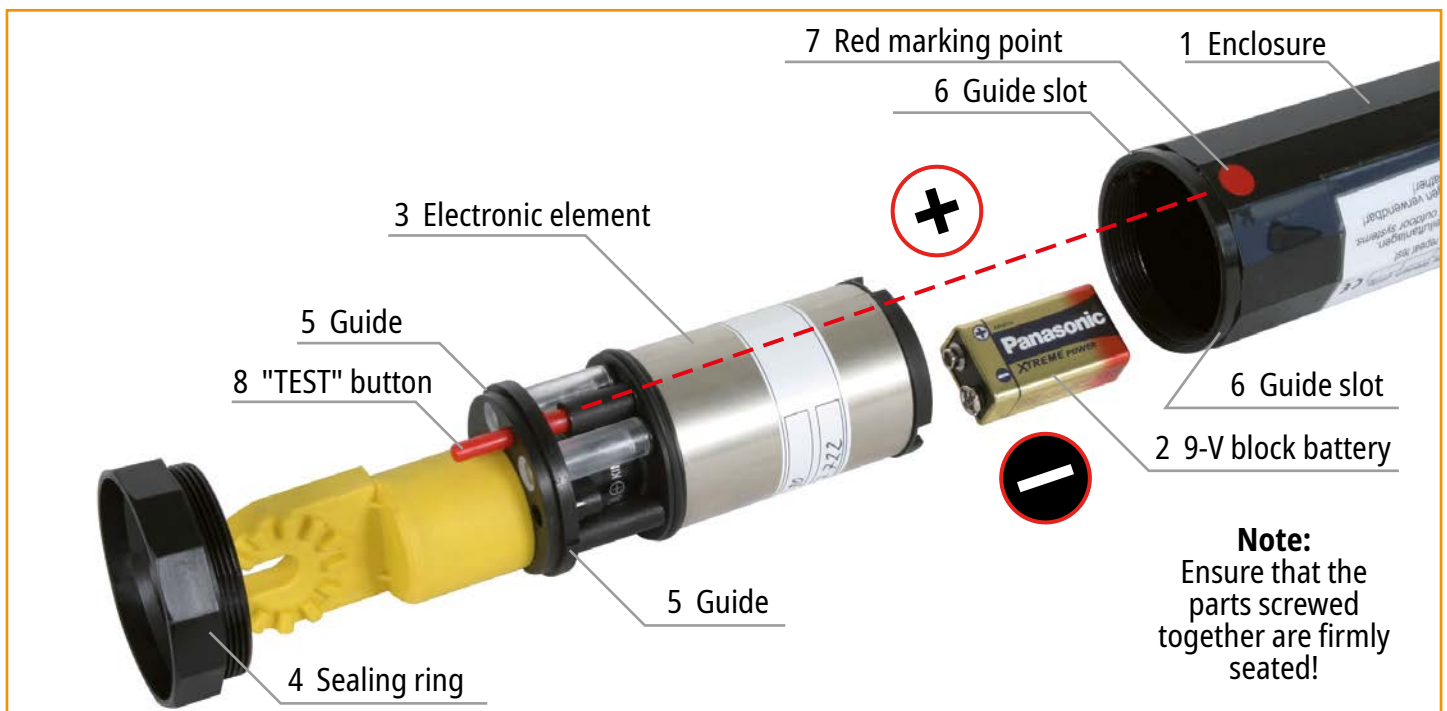

Figure 8
Afterwards, the electronic element (3) can be pulled out of the enclosure (Figure 8). The 9-V block battery (2) located in the upper end of the electronics insert in the battery compartment must be replaced with a new one (note battery symbols +/-).
Before assembling the indicator, you must check the hexagon nuts screwed to the electronic element and the knurled nut are tightly fit. If the nuts (hexagon nuts or knurled nuts) are loose or missing, the voltage detector (the indicator) must be withdrawn from further use and sent to DEHN for repair (see Fig. 8)!